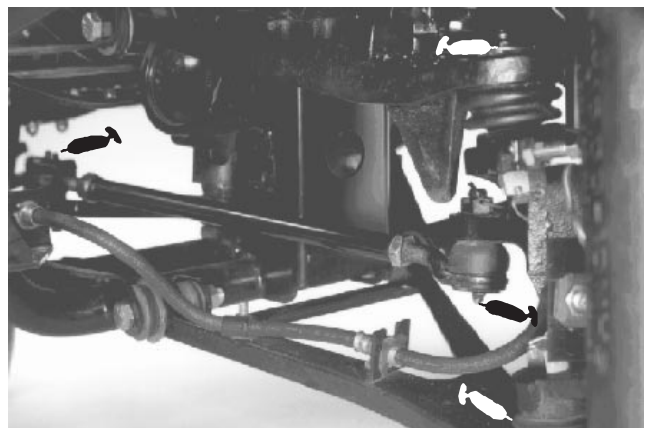
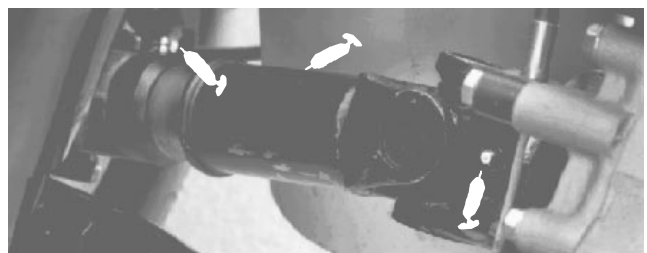

Figure 21
Figure 22
GREASING BEARINGS AND BUSHINGS (Fig. 21–26)
The grease fitting locations and quantities are: Tie rod ends (4) (Fig. 21), Front ball joints (4) (Fig. 21), Rear drive shafts (18) (Fig. 22) Front pivot bushings (2) (Fig. 23); Pedal Pivots (4) (Fig. 24); Steering shaft (1) (Fig. 25) and Accelerator Arm (1) (Fig. 26).